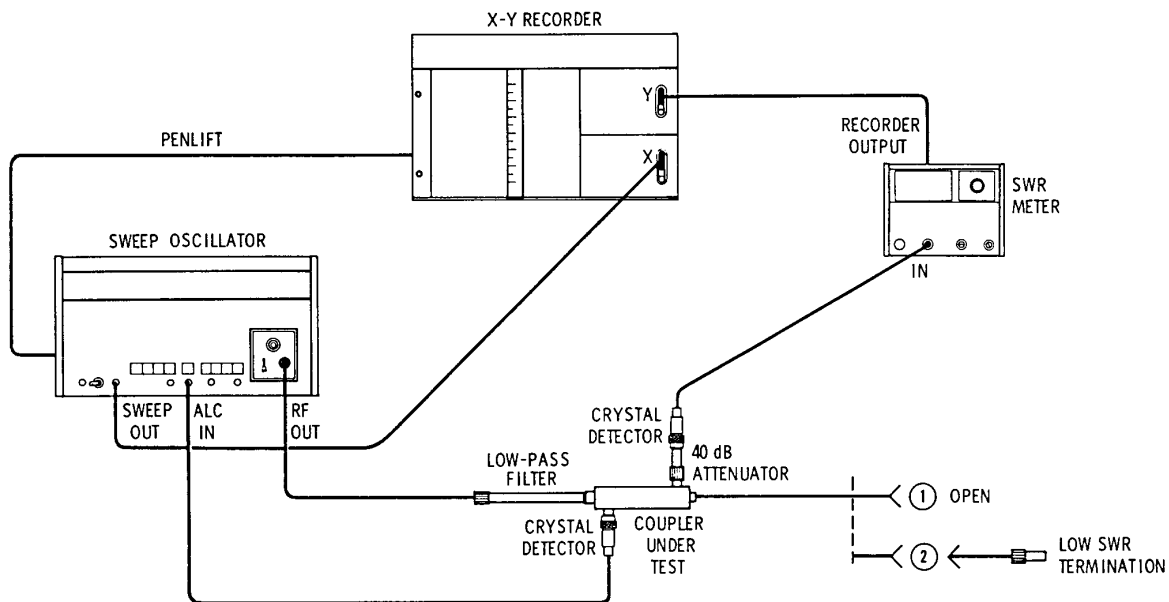

Figure 7 Swept-Frequency Directivity Test Setup
Description Refer to Figure 7 for test setup and Table 2 for test equipment.
1. Connect equipment as shown at (1) in Figure 7.
- a. Connect the termination as shown in (2) in Figure 7. Note that this termination must have an $SWR \leq 1.01$. Do *not* use adapters, which will increase SWR, with this termination. If adapters are used, the results will be degraded.